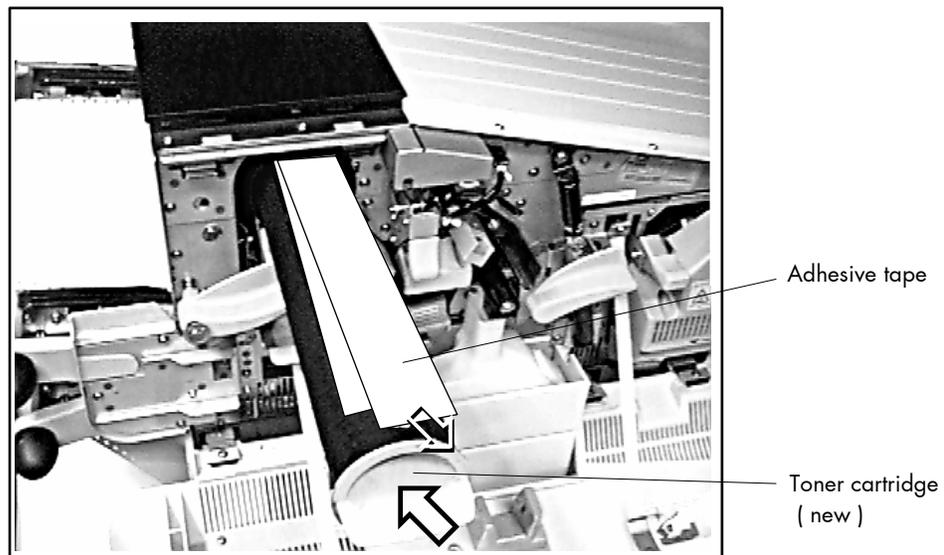

Fig. 7.2.d New toner cartridge inserting
11. Slide the toner cartridge slowly into the device and pull off the plastic seal (adhesive tape) at the same time (see arrows in figure 7.2.d).